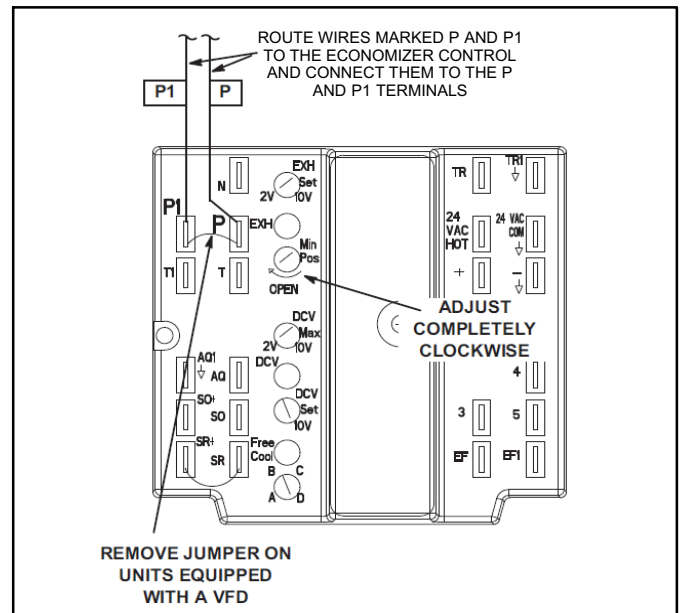

Figure 13. A6 Enthalpy Control
- 7.4. Remove the jumper between **P** and **P1** terminals on the economizer enthalpy controller **A6**. See figure 13.